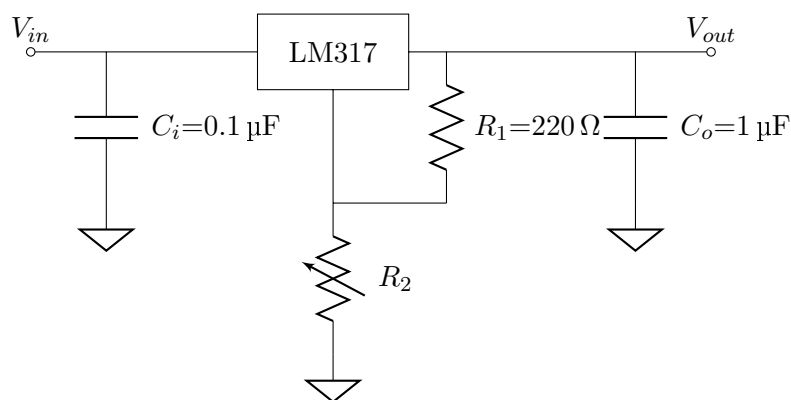

Figure 4: Schematic of the voltage regulator circuit using LM317.
1. Using Fig. 4 as a reference, build the regulator circuit on the breadboard.